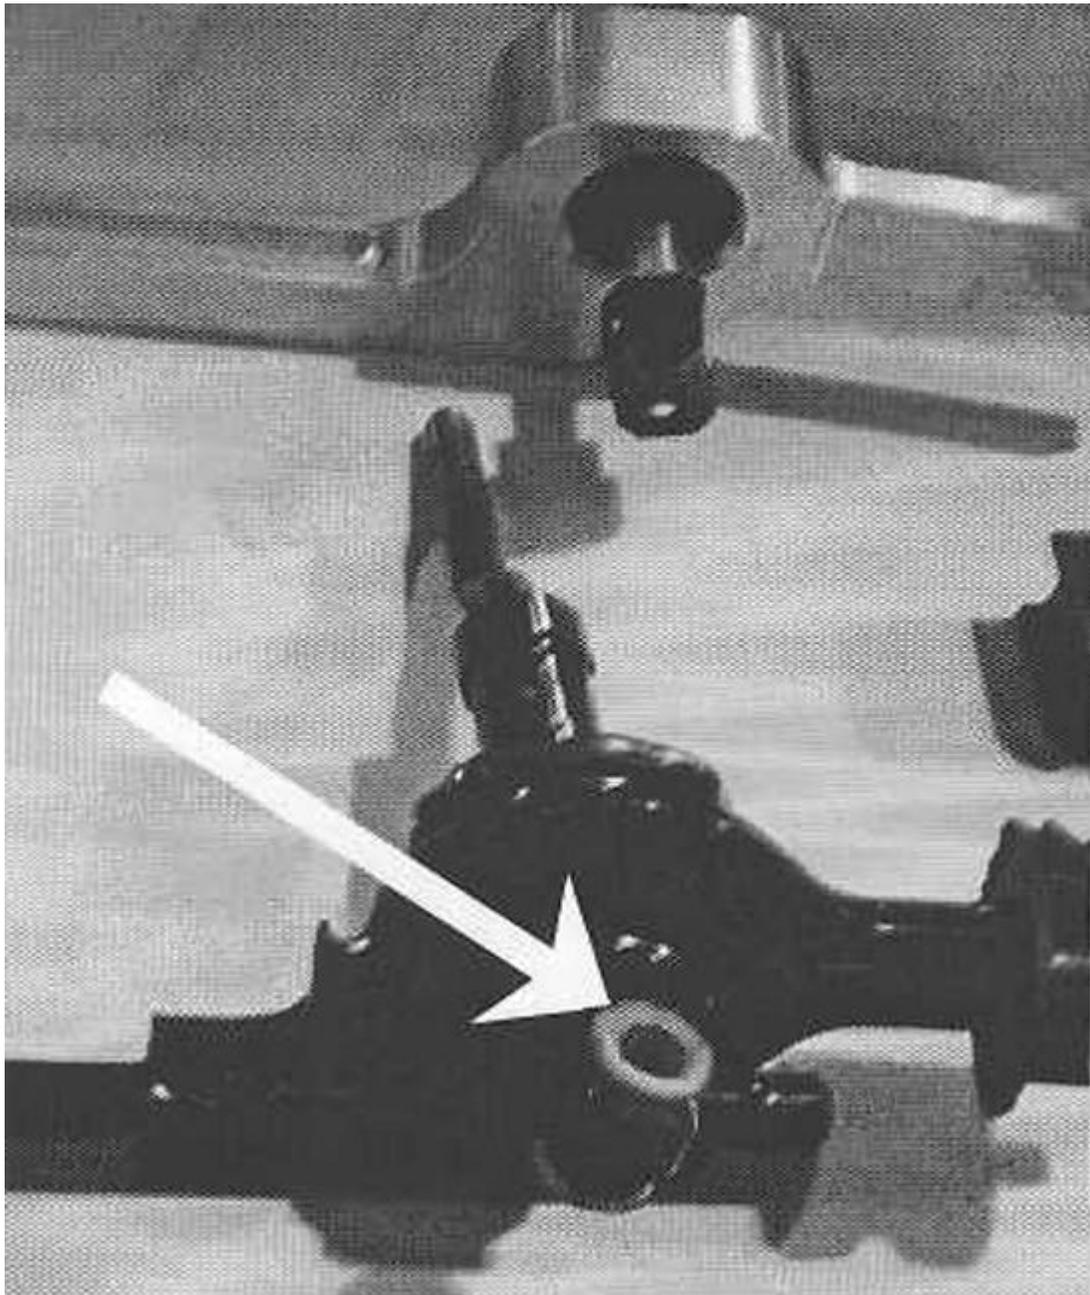

Figure 10
12. Remove the two (2) plastic bushings from the bottom of the shifter stalk and transfer them to the ROUSH shifter. Lubricate bushings with lithium grease (Refer to Figures 10 and 11).